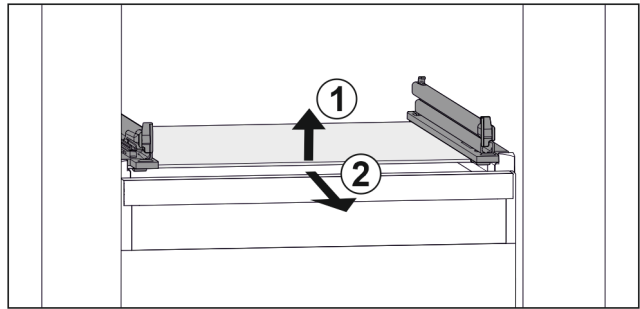

Fig. 61 Example illustration of glass shelf
- ▶ Lift glass shelf at the front. Fig. 61 (1)
- ▶ Remove glass shelf to the front. Fig. 61 (2)